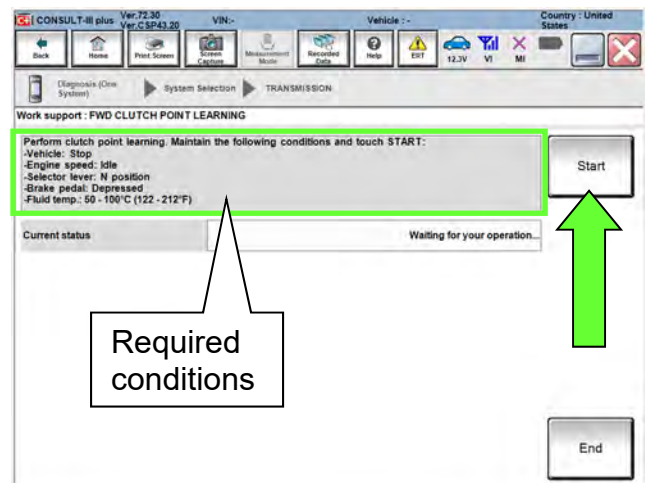

Figure 192
- Confirm that all of the conditions indicated in Figure 192 are being met.
186. While maintaining all conditions shown in Figure 192 and the Current status indicates EXECUTING, shift the CVT into **R** and then wait until the Current status indicates COMPLETED.